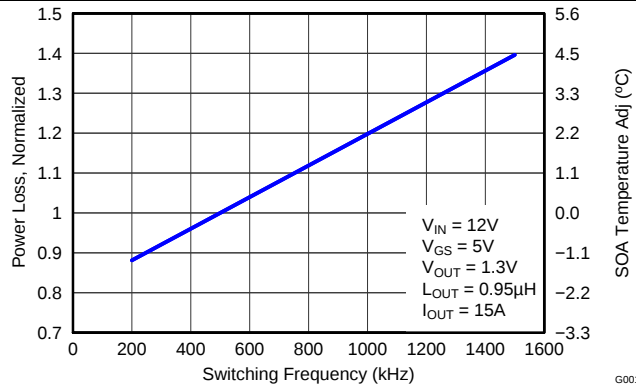

Figure 5. Normalized Power Loss vs Switching Frequency
- Normalized Power Loss for switching frequency ≈ 1.11 (Figure 5)
- SOA adjustment for switching frequency $\approx 1.03^\circ\text{C}$ (Figure 5)